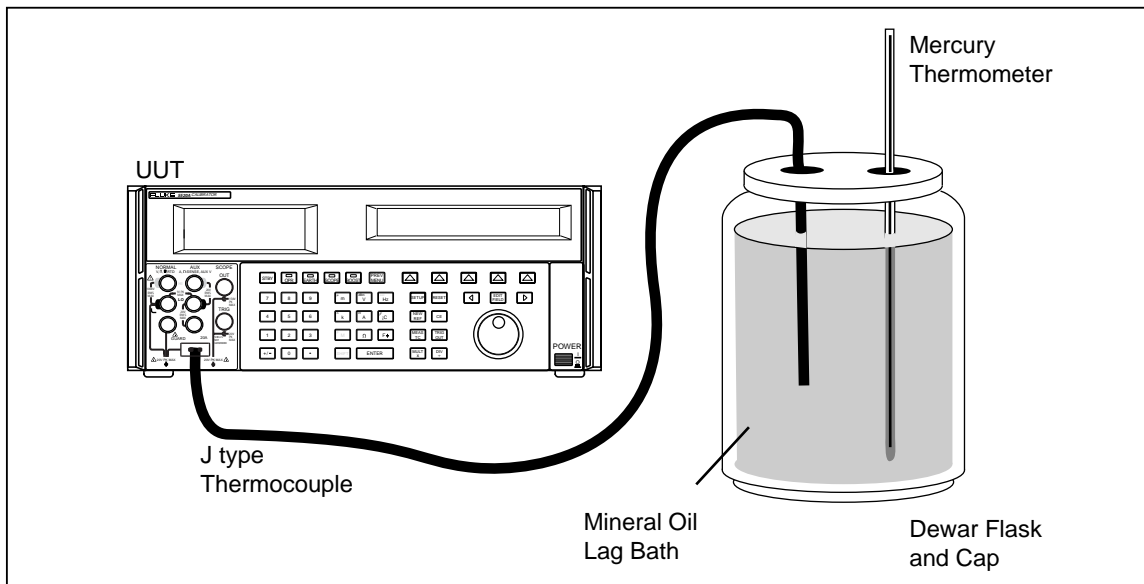

Figure 3-5. Connections for Calibrating Thermocouple Measuring
6. Connect a Type-J thermocouple to the TC terminals on the UUT, and immerse the thermocouple and a precision mercury thermometer in a mineral oil lag bath that is within ± 2 °C of ambient temperature. The test setup is shown in Figure 3-5.